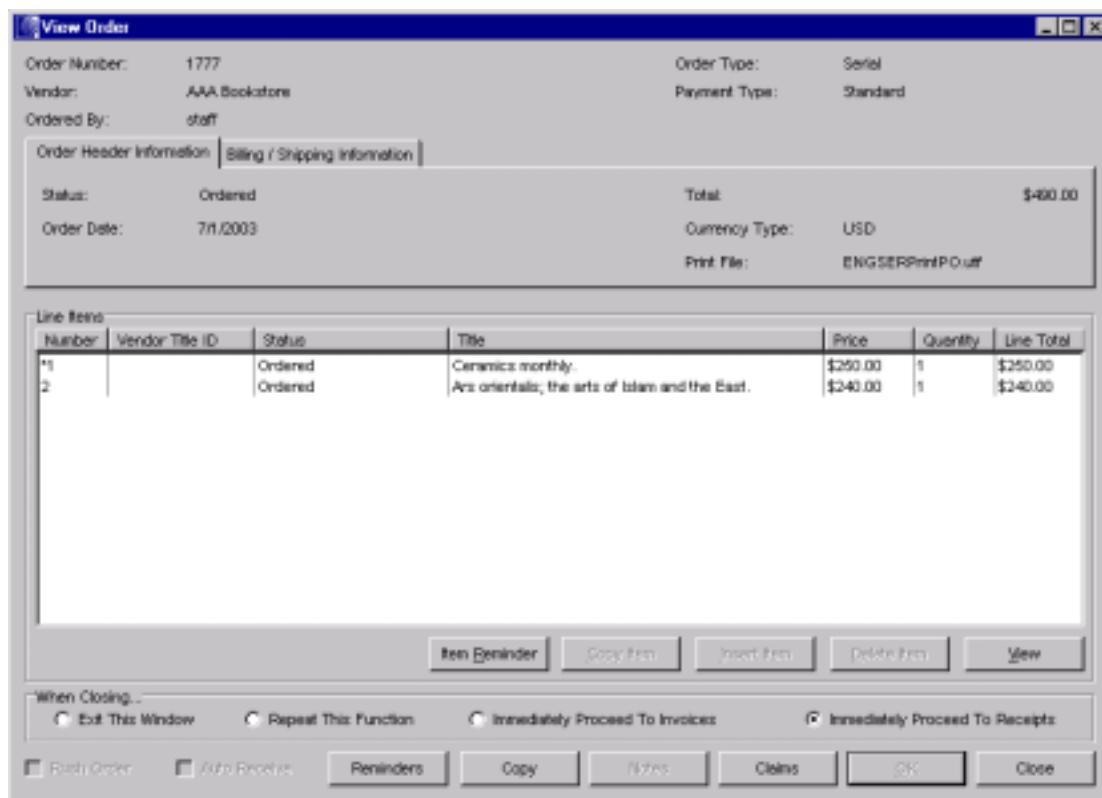

Figure 11-11. View Order Window - Reminders
1. Display the View/Update Order window (*Figure 11-11*) or the View/Update Receipts window.